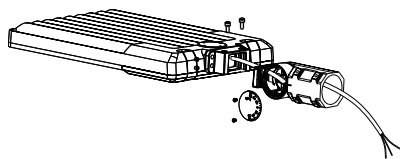

Figure 10
Step 1: Open the small round cap on the bracket and run the wires through the bracket. (Figure 10)